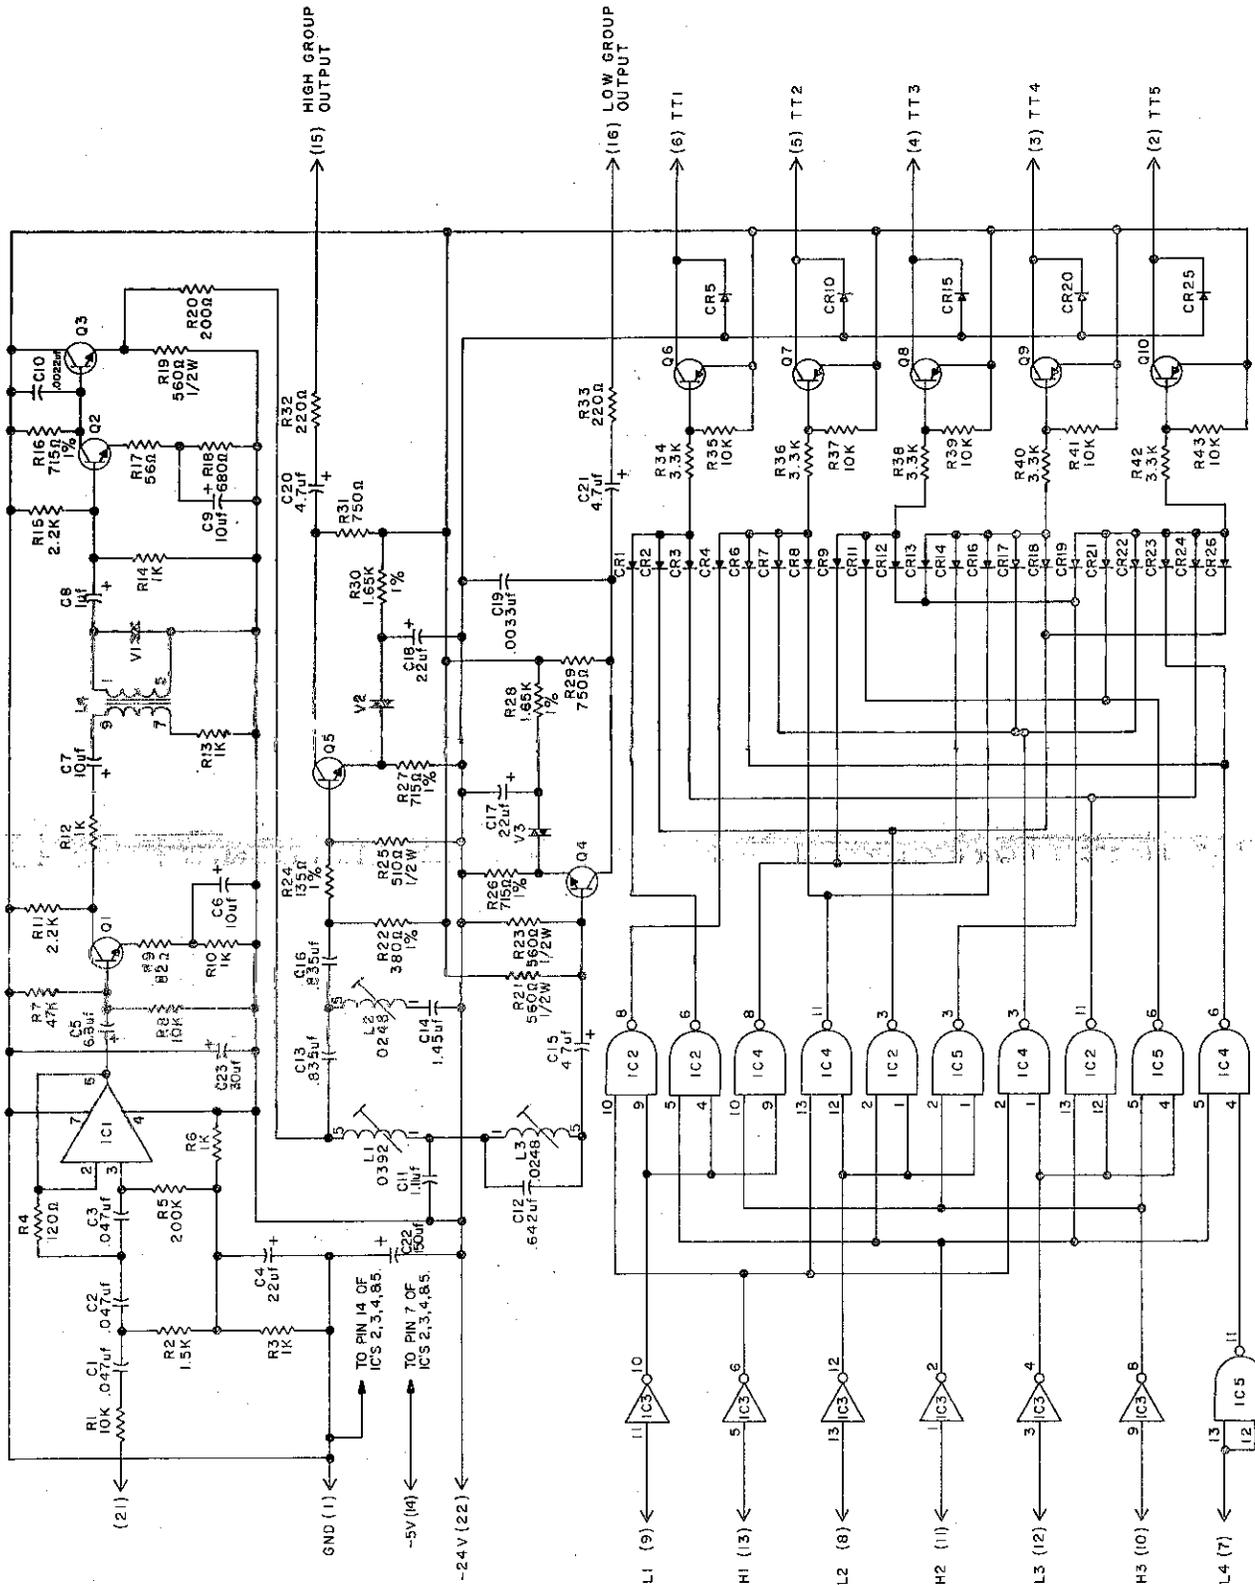

Fig. 6 - Circuit Diagram, K1668 KTU
**2.06** K166B Pushbutton (Tone) Dial Translator Card. One is used per system in conjunction with a K166A Detector Card to adapt intercom system to accommodate pushbutton dialing. Approximate dimensions in inches are 5 3/8" W x 5 5/8" L x 1¼" D. (22 dual contacts.) See fig. 6.